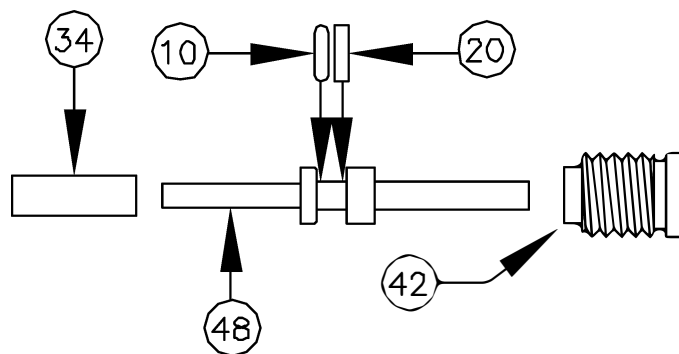

FIGURE 17
REPLACEMENT OF RELIEF ROD SEAL (SEE FIGURE 17):
2. Place backup washer 20 and O-ring 10 in the ring groove of the relief rod. CAUTION: Note placement of seal and backup washer. Place relief rod spring 34 on the lower end of the rod (see Figure 17 for correct order of installation).